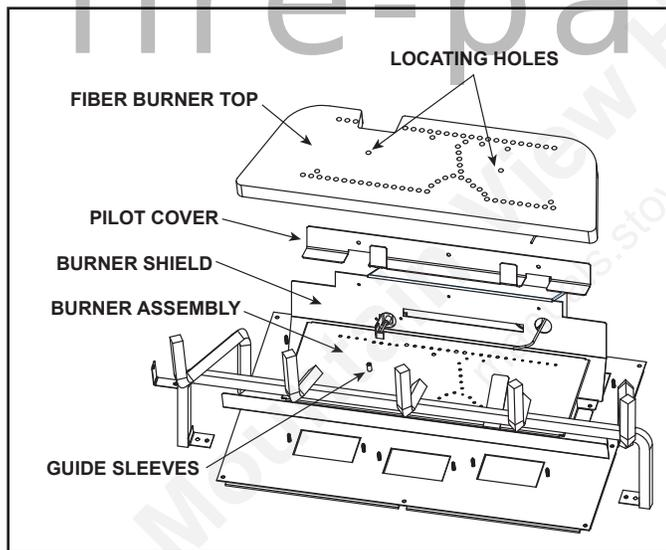

Figure 16.8 Place Fiber Burner Top on Pins
1. Locate the guide sleeves on the burner assembly. See Figure 16.8. Position the fiber burner top on the pins and carefully push burner top into place.